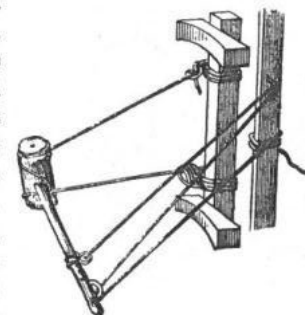
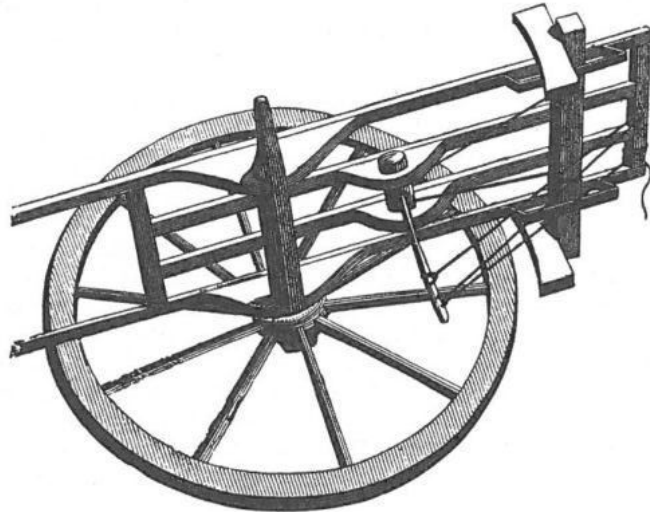

Fig. 1.
Fig. 2.
*Breaks and Drags.*—*Breaks.*—Every cart and wagon in Switzerland, and, indeed, in most parts of the Continent, has a break attached to it: the simplest kind of break is shown in fig. 2, which represents a cart tilted upwards. Fig. 1 shows the break itself; fig. 2 explains how it is fitted on to the cart. It will easily be understood how, by tightening the free end of the cord, the break is pressed against the wheels. The bent piece of iron shown in fig. 2, by which the bar of the break is kept in its place, may